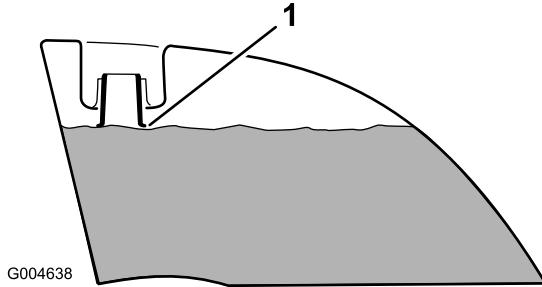

Figure 9
4. Add fuel to both fuel tanks, until the level is even with the bottom of the filler neck (Figure 9). **Do not overfill the fuel tanks.**